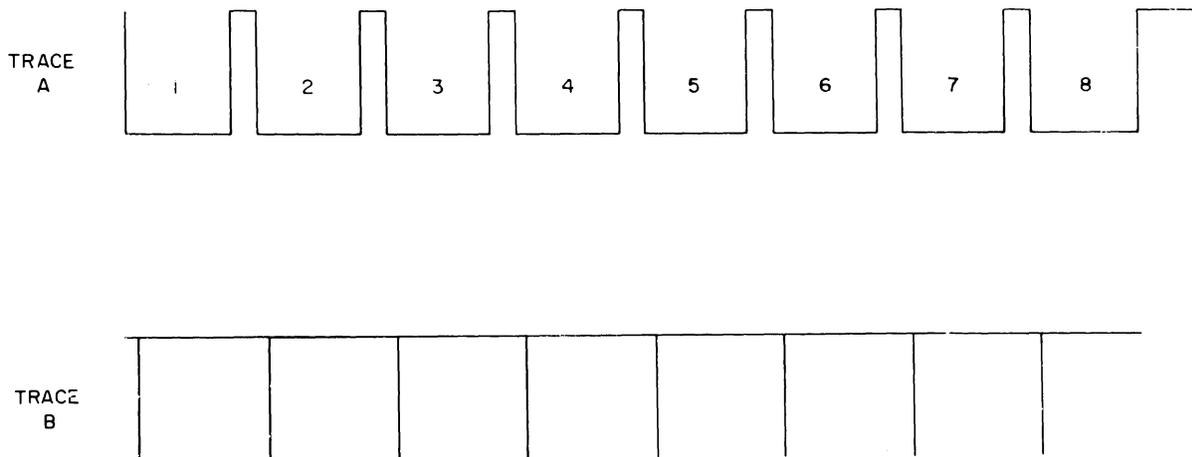

Figure 5-5. Slew Test Waveforms
f. Check the oscilloscope presentation. Waveforms shown in figure 5-5 should be observed.
h. Observe trace B figure 5-5. The repetition rate should be the same as the pulse generator.